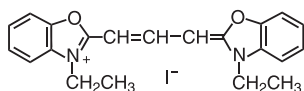

Figure 1. Structure of DiOC₂(3)
The BacLight™ Bacterial Membrane Potential Kit provides solutions of the carbocyanine dye DiOC₂(3) (3,3'-diethyloxa-carbocyanine iodide, Component A; Figure 1) and CCCP (carbonyl cyanide 3-chlorophenylhydrazone, Component B), both in DMSO, and a 1X phosphate-buffered saline solution (Component C). DiOC₂(3) exhibits green fluorescence in all bacterial cells, but the fluorescence shifts toward red emission as the dye molecules self-associate at the higher cytosolic concentrations caused by larger membrane potentials. Proton ionophores such as CCCP destroy membrane potential by eliminating the proton gradient.^{1,2}